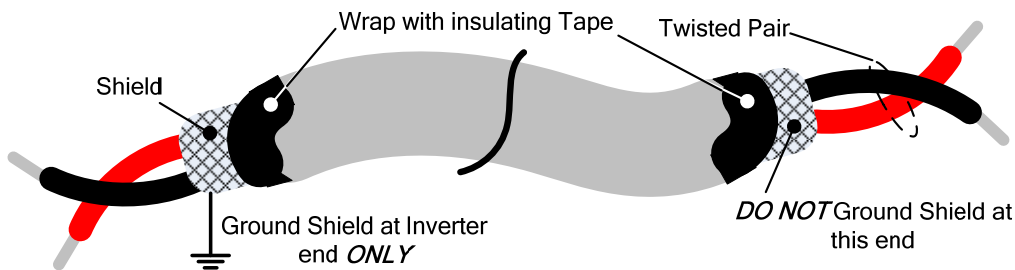

Fig. 3.17.1 Shielded Twisted-Pair
- (1) Separate the wiring for control circuit terminals from main circuit wiring for terminals (R/L1, S/L2, T/L3, U/T1, V/T2, W/T3).
- (2) Separate the wiring for control circuit terminals R1A-R1B-R1C (or R2A, R2C) (Relay outputs) from wiring for terminals ① - ⑧, A01, A02, GND, DO1, DO2, DOG, +12V, (-12V), A11, A12 and GND wiring.
- (3) Use shielded twisted-pair cables (#24 - #14 AWG / 0.5 - 2 mm²) shown in Fig. 3.17.1 for control circuits to minimize noise problems. The maximum wiring distance should not exceed 50m (165 ft).